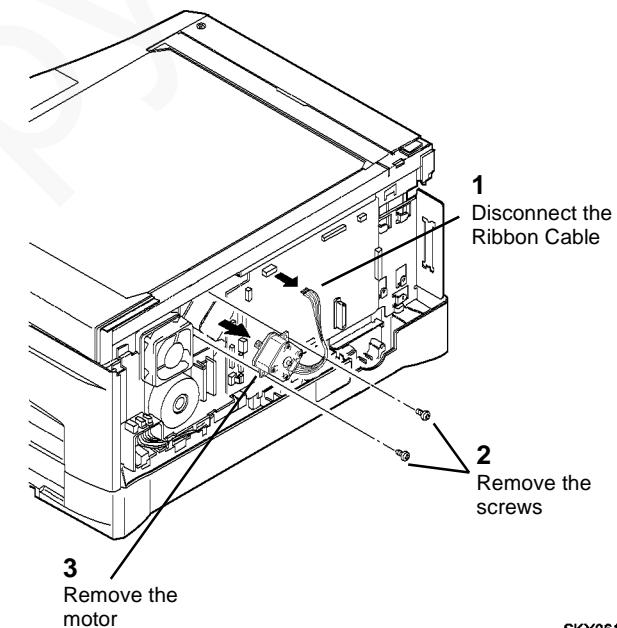

Figure 1 Removing the Scan Drive Motor
4. (Figure 1): Remove the Scan Drive Motor.